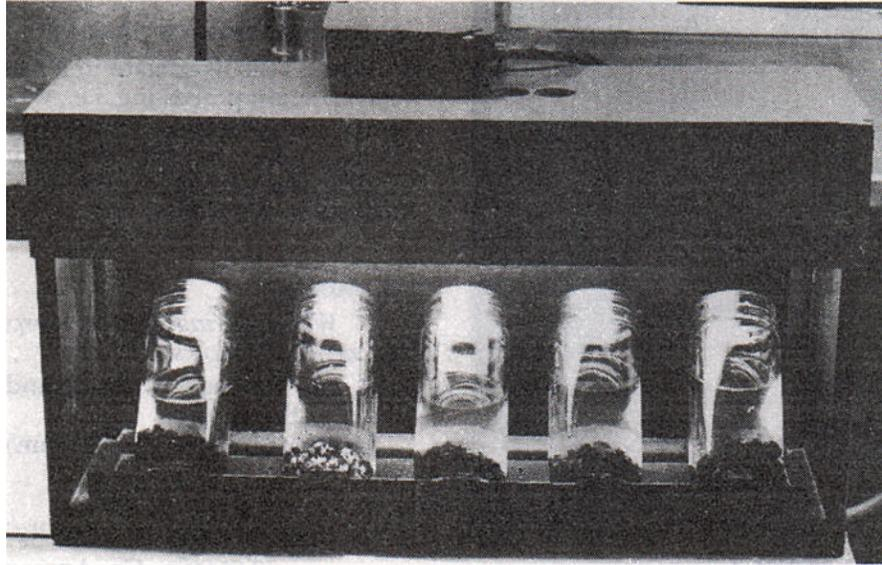

FIGURE 3
3. Fluorescent light box, (Figure 3).